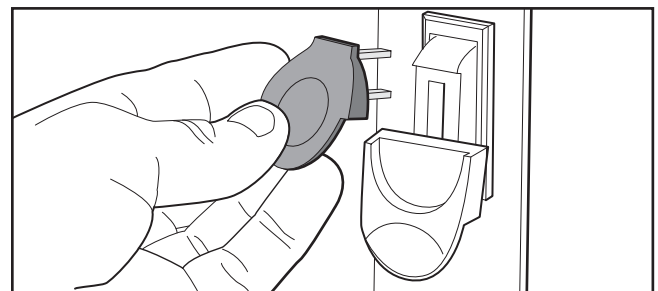

Figure 15. Removing key from paddle switch.
5. Remove switch disabling key, as shown in **Figure 15**.